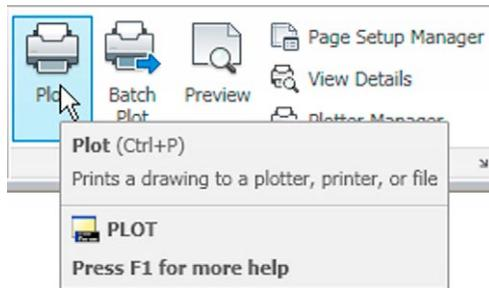

Fig. 15.34 The Plot icon in the Output/Plot panel
1. With a drawing to be printed or plotted on screen click the **Plot** tool icon in the **Output/Plot** panel (Fig. 15.34).